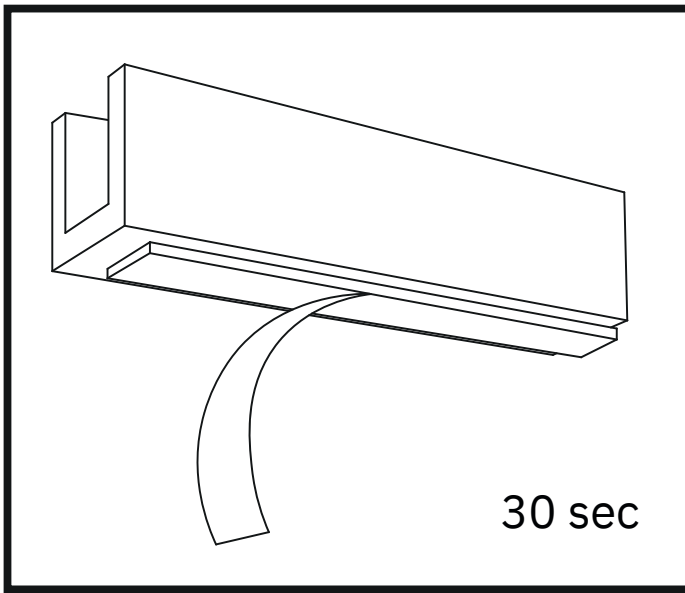

Figure 3
5. Remove the backing film from the double-sided tape on the profile and place the profile on the floor in the marked location. Press the lath firmly, holding the pressure for about 30 seconds. (Figure 3)